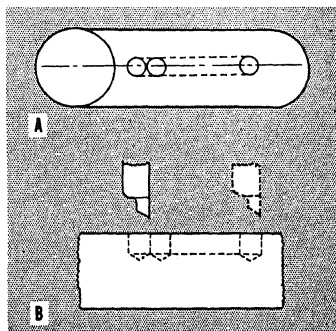

Figure 12-9.—Cutting a keyway in the middle of a shaft.
Occasionally, you may have to cut a keyway in a shaft by using the shaper. Normally, you will lay out the length and width of the keyway on the circumference of the shaft. A centerline laid out along the length of the shaft and across the end of the shaft will make the setup easier (fig. 12-9, view A). Figure 12-9 also shows holes of the same diameter as the keyway width and slightly deeper than the key drilled into the shaft. These holes are required to provide tool clearance at the
beginning and end of the cutting stroke. The holes shown in figure 12-9 are located for cutting a blind keyway (not ending at the end of a shaft). If the keyway extends to the end of the shaft, only one hole is necessary.
1. Lay out the centerline, the keyway width, and the clearance hole centers as illustrated in part A of figure 12-9. Drill the clearance holes.
3. Adjust the stroke and the position of the ram, so the forward stroke of the cutting tool ends at the center of the clearance hole. (If a blind keyway is being cut, ensure that the cutting tool has enough clearance at the end of the return stroke so the tool will remain in the keyway slot.) (See view B of fig. 12-9.)